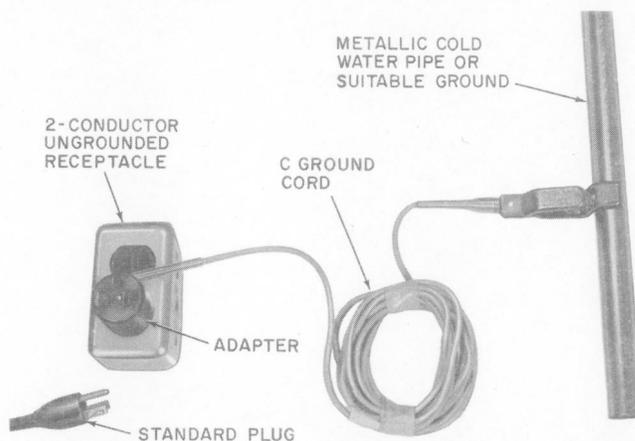

Fig. 9—Ungrounded Outlet Box
- (b) Extend and attach the grounding cord (Fig. 9) to the grounded object, making certain that a good solid metallic connection is made on both ends.